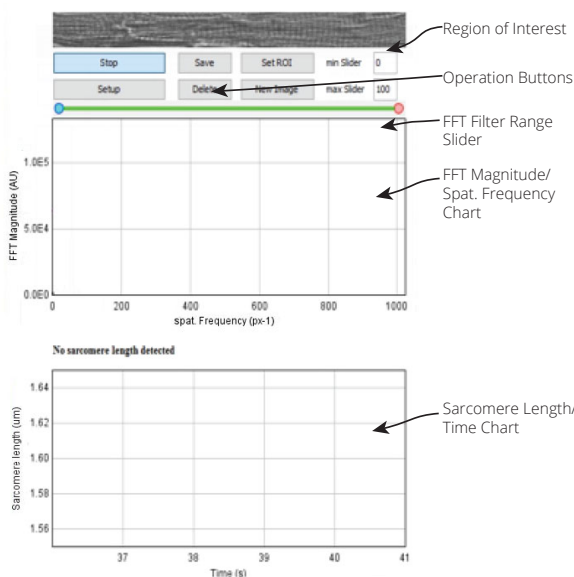

Fig. 31–The OptiSarc plugin shows the region of interest, the FFT magnitude chart and a graph of the sarcomere length v. time.
2. Select the filter frequencies by simply moving the range sliders (Fig. 31). The blue slider (left side) can be used to filter low frequencies, and the red slider (right side) can be used to filter high frequencies. Move the slider to optimize the prominent peak detection in the FFT magnitude/spat. Frequency chart.